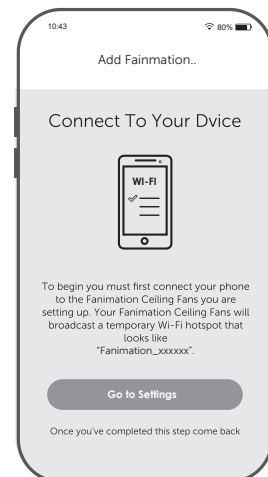

Figure 5
- ☐ **5.** At this stage, your ceiling fan WiFi receiver should be installed and within range of your WiFi router. With the APP open, select "add device". (Figure 5)